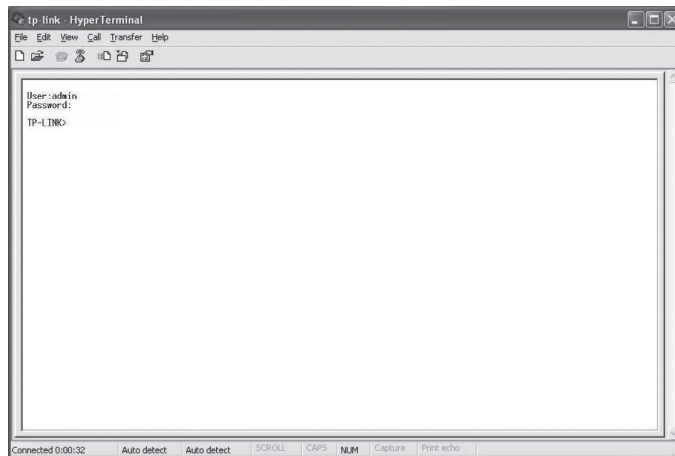

Figure 5-8 Log in the Switch
6. Type the User name and Password in the Hyper Terminal window, the factory default value for both of them is admin. The DOS prompt "TP-LINK>" will appear after pressing the Enter button as Figure 5-8 shown. It indicates that you can use the CLI now.